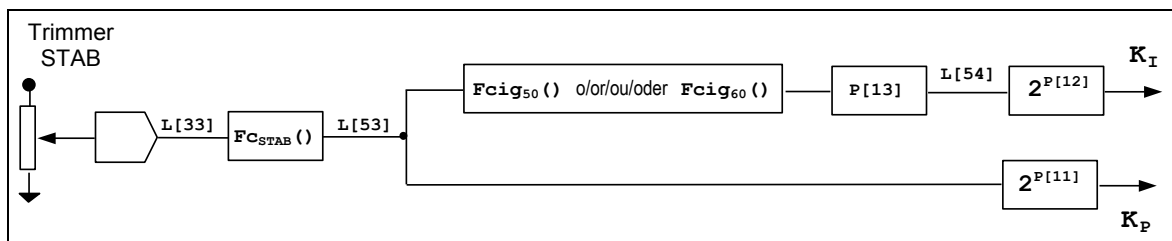
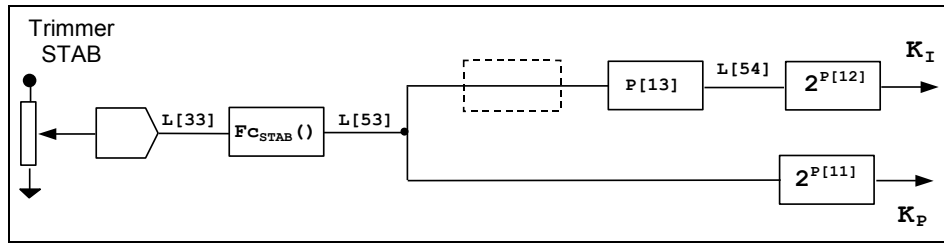
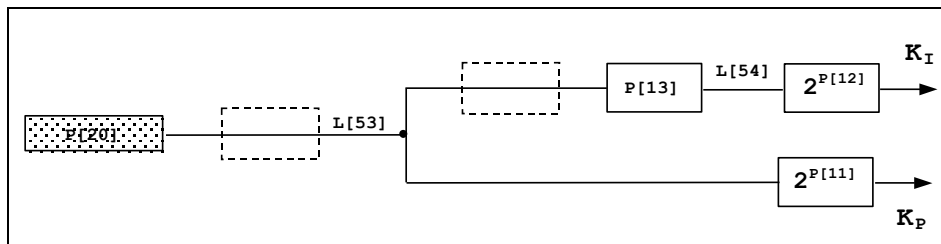

fig. 8a: drawing of the numeric elaboration of the proportional and integral gain by a DER1 (standard) with the STAB trimmer enabled
fig. 8b: drawing of the numeric elaboration of the proportional and integral gain by a DER1/A with the STAB trimmer enabled
fig. 8c: drawing of the numeric elaborations of proportional and integral gain by all DER1 with STAB trimmer disabled
The numeric elaborations carried out by the DER1 for obtaining the proportional and integral gain values are given in the block diagrams in figures 8a(2), 8b(2) and 8c.
If the STAB trimmer is enabled (STAB Flag Trimmer present) its angular position, available at location L[33], is transformed by the  $F_{C_{STAB}}^{(2)}$  function into the numeric value available at location L[53](3) (figs. 8a and 8b). If the STAB trimmer is disabled, the value of location L[53](3) directly becomes the value set using the P[20] parameter (fig. 8c).
The integral gain, available at location L[54](3) minus the multiplication by a coefficient, depends on the value of the proportional gain at location L[53](3); in the standard DER1 (grey box) with the STAB trimmer enabled (STAB Flag Trimmer present) the value of location L[53](3) at 50Hz is transformed by the function  $F_{cig_{50}}^{(2)}$  and by the multiplication of the value of parameter P[13], in the numeric value available at location L[54](3); at 60Hz the transformation function is  $F_{cig_{60}}^{(2)}$ , different from that at 50Hz, (fig. 8a); in the other versions of the DER1 (fig. 8b), for example DER1/A (blue box), or if the STAB trimmer is disabled(4) (fig. 8c), not only is there a difference between the integral value at 50Hz and at 60Hz, but even the value of location L[54](3) is obtained by simply multiplying the proportional gain at location L[53](3) by the value of parameter P[13].